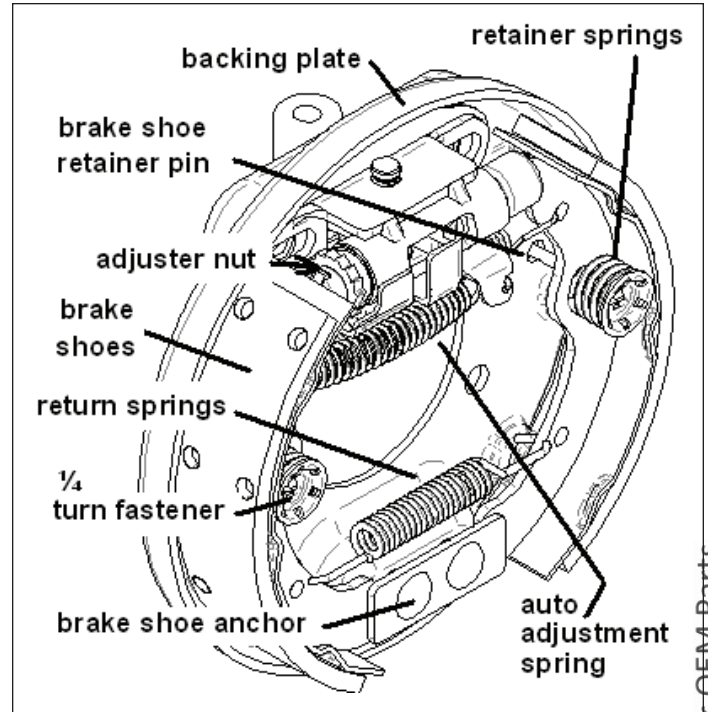

Figure 5-7. Mechanical Drum Brake Assembly
Refer to Figures 5-7 & 5-8.
5. Locate adjuster nut (Figure 5-7).
3. See Figure 5-7. Using a flat blade screwdriver, turn the adjuster nut (at the top) away from the backing plate. Check to make sure the shoes are spreading further apart. Make sure the brake drum still slides on easily.